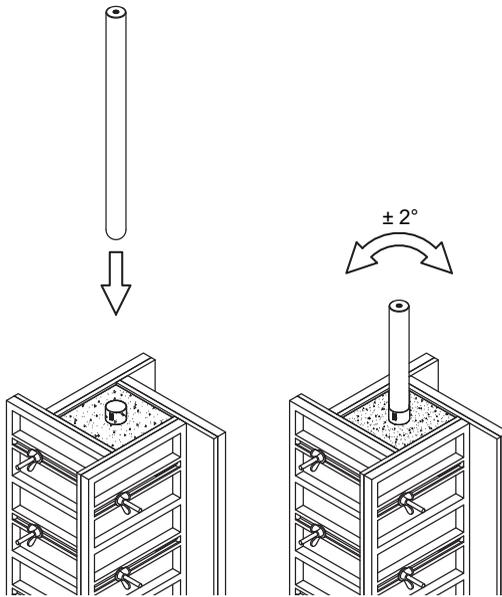

Figure 16. *Levelling the Cast-in Sleeve body.*
2. Remove the plastic plug from the top of the Cast-in Sleeve and use the levelling element to make sure that the sleeve is in a vertical position, as shown in Figure 16. Prescribed tolerances have to be respected.